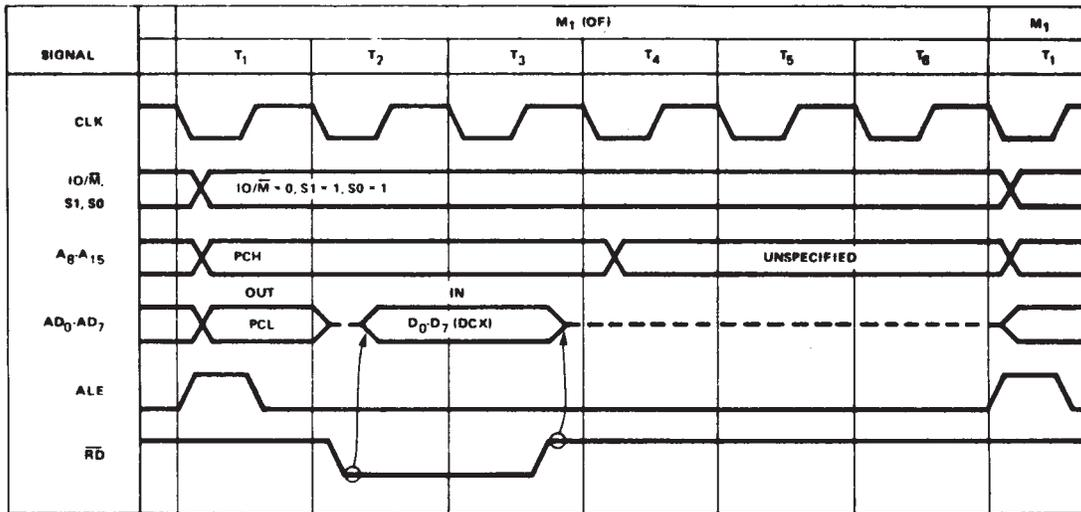
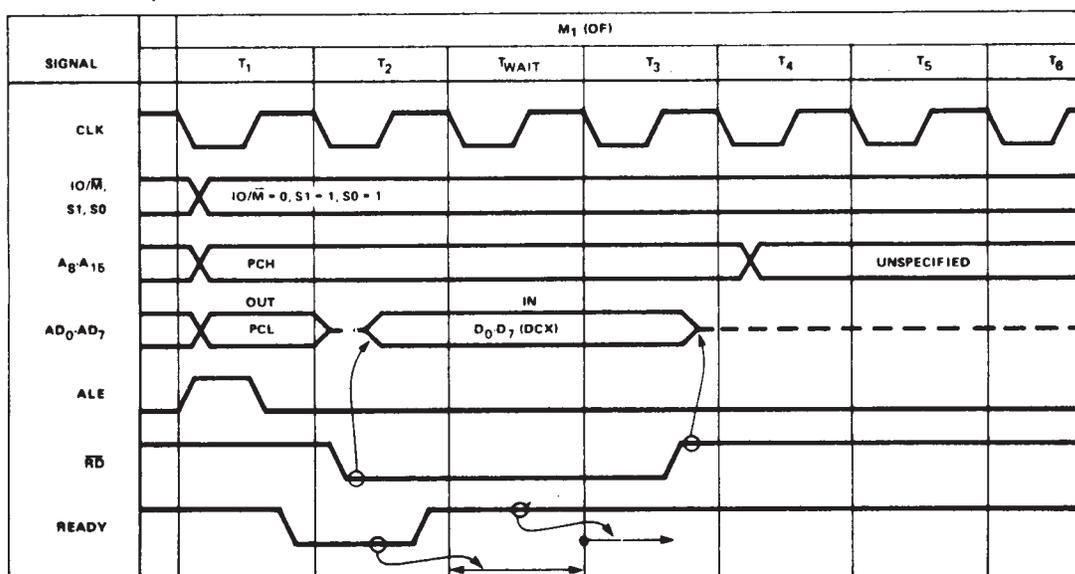
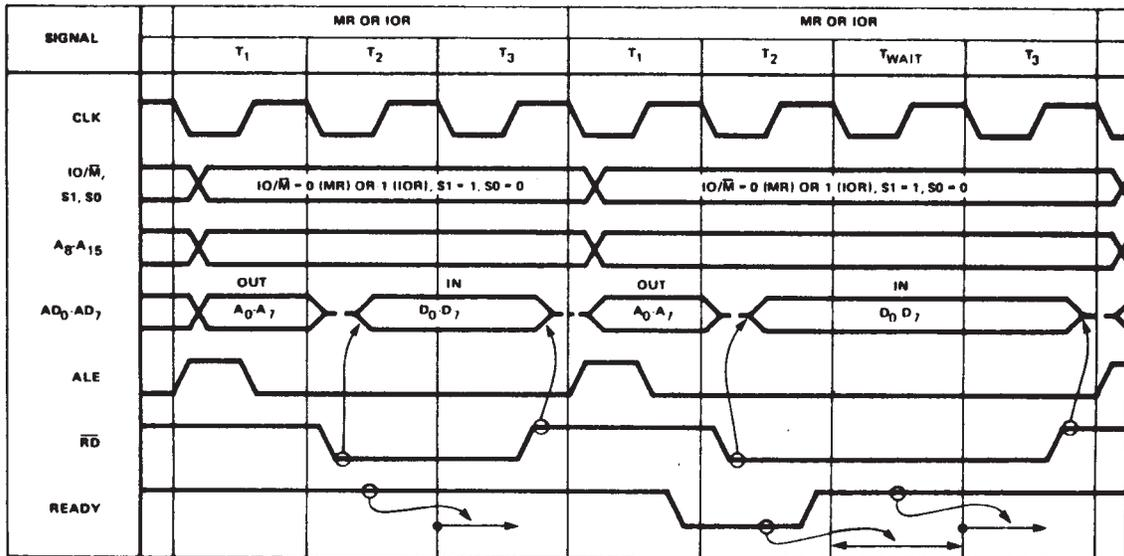

Figure 7-12 OPCODE FETCH MACHINE CYCLE (OF DCX INSTRUCTION)
Figure 7-13 OPCODE FETCH MACHINE CYCLE WITH ONE WAIT STATE
Figure 7-14 MEMORY READ (OR I/O READ) MACHINE CYCLES (WITH AND WITHOUT WAIT STATES)
The 8085A also sends out a 16-bit address at the beginning of every machine cycle to identify the particular memory location or I/O port that the machine cycle applies to. In the case of an OF cycle, the contents of the program counter is placed on the address bus. The high order byte (PCH) is placed on the A₈-A₁₅ lines, where it will stay until at least T₄. The low order byte (PCL) is placed on the AD₀-AD₇ lines, whose three-state drivers are enabled if not found already on. Unlike the upper address lines, however, the information on the lower address lines will remain there for only one clock cycle, after which drivers will go to their high impedance state, indicated by a dashed line in Figure 7-12. This is necessary because the AD₀-AD₇ lines are time multiplexed between the address and data buses. During T₁ of every machine cycle, AD₀-AD₇ output the lower 8-bits of address after which AD₀-AD₇ will either output the desired data for a WRITE operation or the drivers will float (as is the case for the OF cycle), allowing the external device to drive the lines for a READ operation.
After the status signals and address have been sent out and the AD₀-AD₇ drivers have been disabled, the 8085A provides a low level on \overline{RD} to enable the addressed memory device. The device will then start driving the AD₀-AD₇ lines; this is indicated by the dashed line turning into a solid line in Figure 7-12. After a period of time (which is the access time of the memory) valid data will be present on AD₀-AD₇. The 8085A during T₃ will load the memory data on AD₀-AD₇ into its instruction register and then raise \overline{RD} to the high level, disabling the addressed memory device. At this point, the 8085A will have finished accessing the opcode of the instruction. Since this is the first machine cycle (M₁) of the instruction, the CPU will automatically step to T₄ as shown in Figure 7-10.
During T₄, the CPU will decode in the instruction register and decide whether to enter T₅ on the next clock or to start a new machine cycle and enter T₁. In the case of the DCX instruction shown in Figure 7-12, it will enter T₅ and then T₆ before going to T₁.
Figure 7-13 is identical to Figure 7-12 with one exception, which is the use of the READY line. As we can see in Figure 7-10, when the CPU is in T_2 , it examines the state of the READY line. If the READY line is high, the CPU will proceed to T_3 and finish executing the instruction. If the READY line is low, however, the CPU will enter T_{WAIT} and stay there indefinitely until READY goes high. When the READY line does go high, the CPU will exit T_{WAIT} and enter T_3 , in order to complete the machine cycle. As shown in Figure 7-13, the external effect of using the READY line is to preserve the exact state of the processor signals at the end of T_2 for an integral number of clock periods, before finishing the machine cycle. This 'stretching' of the system timing has the further effect of increasing the allowable access time for memory or I/O devices. By inserting T_{WAIT} states, the 8085A can accommodate even the slowest of memories. Another common use of the READY line is to single-step the processor with a manual switch.
Figure 7-14 shows the timing of two successive MEMORY READ (MR) machine cycles, the first without a T_{WAIT} state and the second with one T_{WAIT} state. The timing during T_1-T_3 is absolutely identical to the OPCODE FETCH machine cycle, with the exception that the status sent out during T_1 is $IO/\overline{M} = 0, S1 = 1, S0 = 0$, identifying the cycles as a READ from a memory location. This differs from Figure 7-12 only in that $S0 = 1$ for an OF cycle, identifying that cycle as an OPCODE FETCH operation. Otherwise, the two cycles are identical during T_1-T_3 .
Figure 7-14 also shows the timing of two successive I/O READ (IOR) machine cycles, the first without a T_{WAIT} state. As is readily apparent, the timing of an IOR cycle is identical to the timing of an MR cycle, with the exception of $IO/\overline{M} = 0$ for MR and $IO/\overline{M} = 1$ for IOR; recall that IO/\overline{M} status signal identifies the address of the current machine cycle as selecting either a memory location or an I/O port. The address used in the IOR cycle comes from the second byte (Port No.) of an INPUT instruction. Note that the I/O port address is duplicated onto both AD₀-AD₇ and A₈-A₁₅. The IOR cycle can occur only as the third machine cycle of an INPUT instruction.